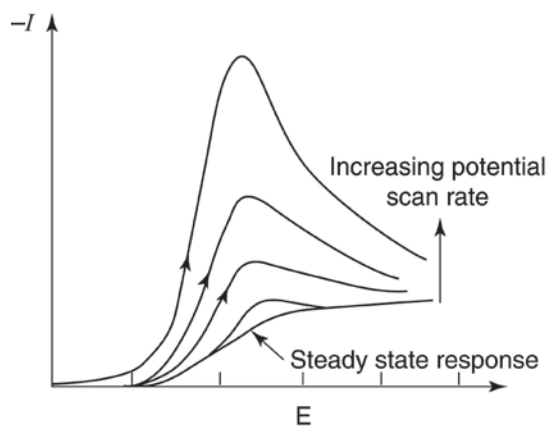

Figure 1
occurs at the cathode when a suitable potential is applied. The current flowing as the cathode is made increasingly negative depends on the rate of potential change, and has the form indicated in Figure 1.
- (a) Explain the appearance of the curves in Figure 1, labelling any key values on the potential axis. What might the current response look like when the potential sweep is reversed? Discuss the types of information that can be obtained from measurements of the currents produced by cyclic forward and reverse potential sweeps.